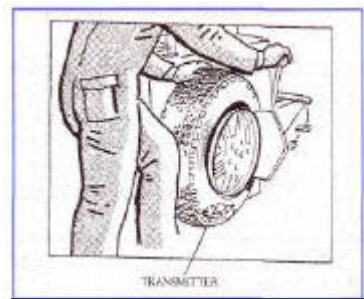

Figure 1 - Bead breaking procedure
2. Place on tyre changing machine (see Figure 1) and break both tyre beads ensuring that the transmitter remains in the bottom of the tyre.